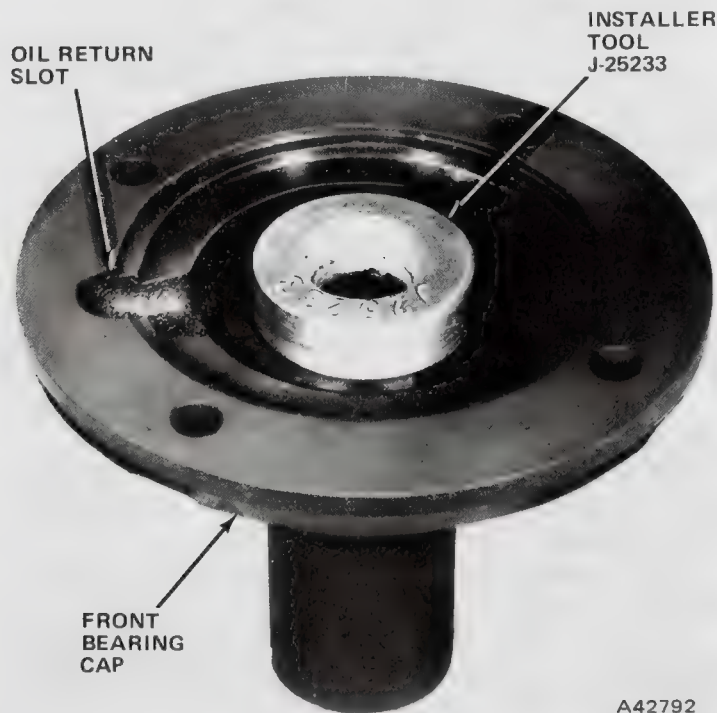

Fig. 2B-17 Front Bearing Cap Oil Seal Installation
(47) Coat blocking ring surface of clutch shaft with transmission lubricant and install blocking ring on shaft.
(48) Support output shaft assembly and insert clutch shaft into front bearing bore of case.
(49) Seat output shaft pilot hub in clutch shaft roller bearings and seat front bearing (and clutch shaft) in case using plastic or rawhide mallet.
(50) Apply thin film of sealer to front bearing cap gasket and position gasket on case. Be sure cutout in gasket is aligned with oil return hole in case.
(51) Remove front bearing cap oil seal using screwdriver and install replacement oil seal using Installer Tool J-25303 (fig. 2B-17).
(52) Install front bearing cap and tighten attaching bolts to 44.7 newton meters (33 foot-pounds) torque. Position cap on case using alignment marks made at disassembly. Be sure oil return slot in cap is aligned with oil return hole in case.
(53) Install large locating snap ring on rear output shaft bearing and install bearing on shaft with snap ring groove facing rear of shaft.
(54) Seat rear bearing in case using Installer Tool J-25234 (fig. 2B-18) and install rear bearing retaining snap ring on output shaft.
(55) Install speedometer drive gear lock ball in shaft, slide gear onto shaft and over lock ball, and install gear retaining snap ring.